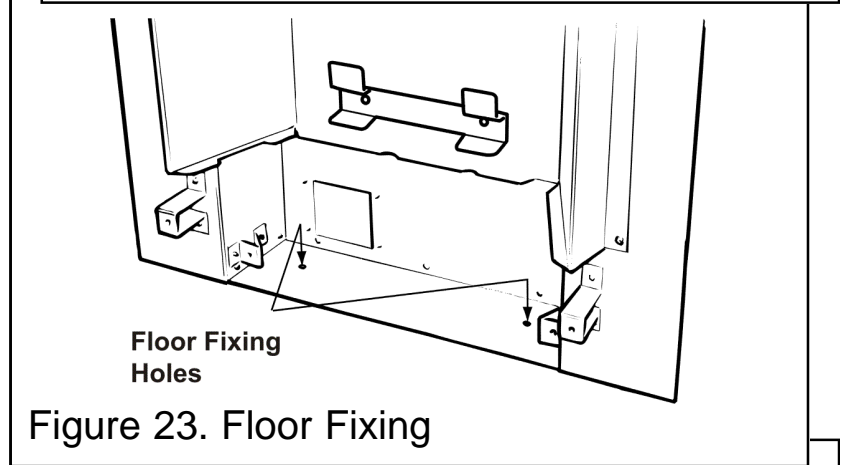

Figure 23. Floor Fixing
10. Drill a hole into the fireplace floor through each of the two holes in the base of the convection box using a no.12 masonry drill. See figure 23.